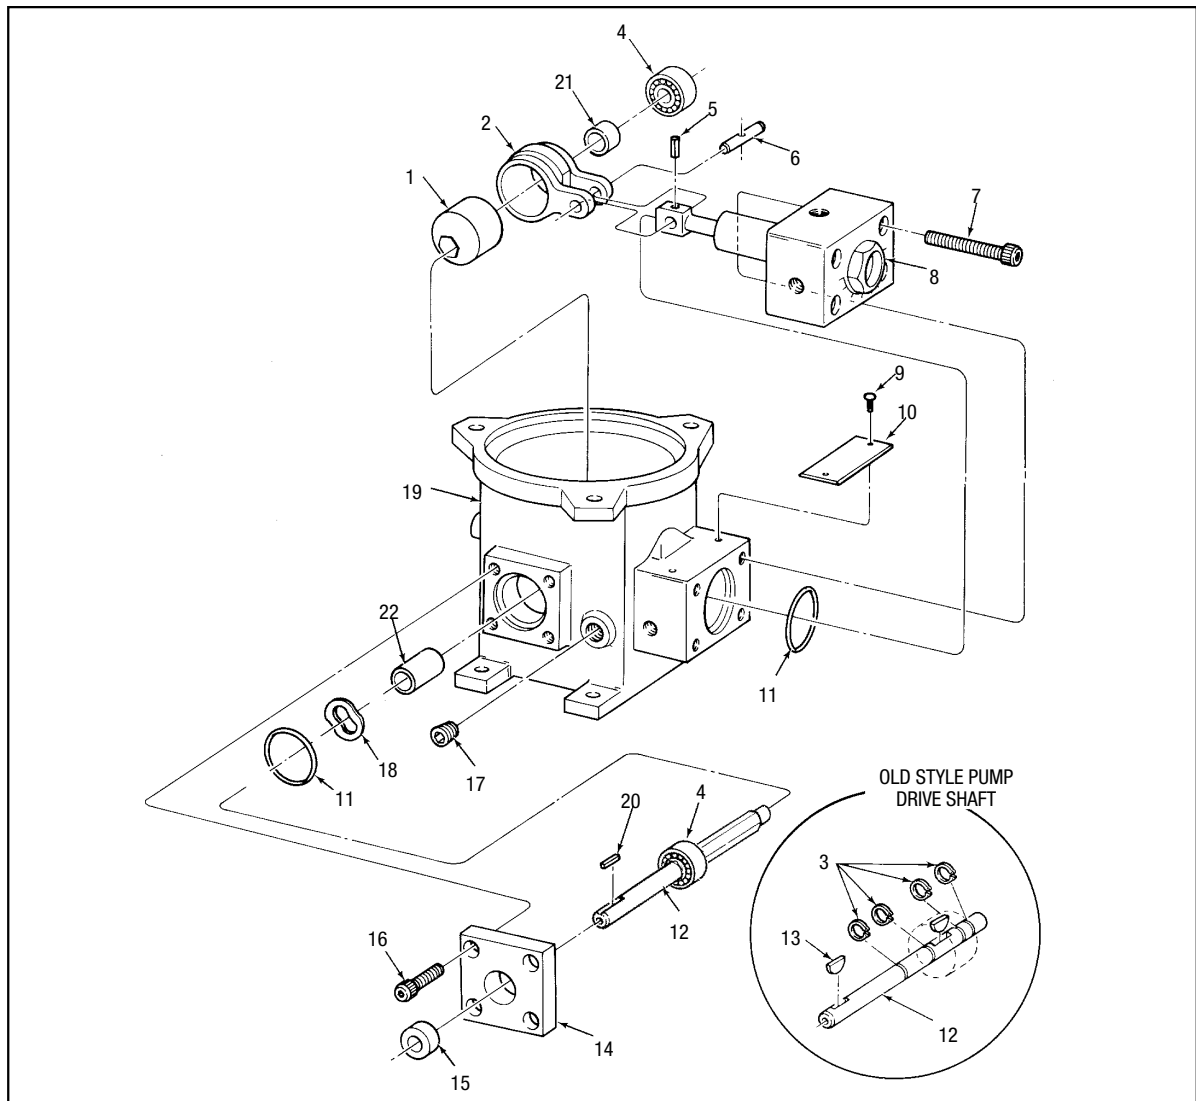
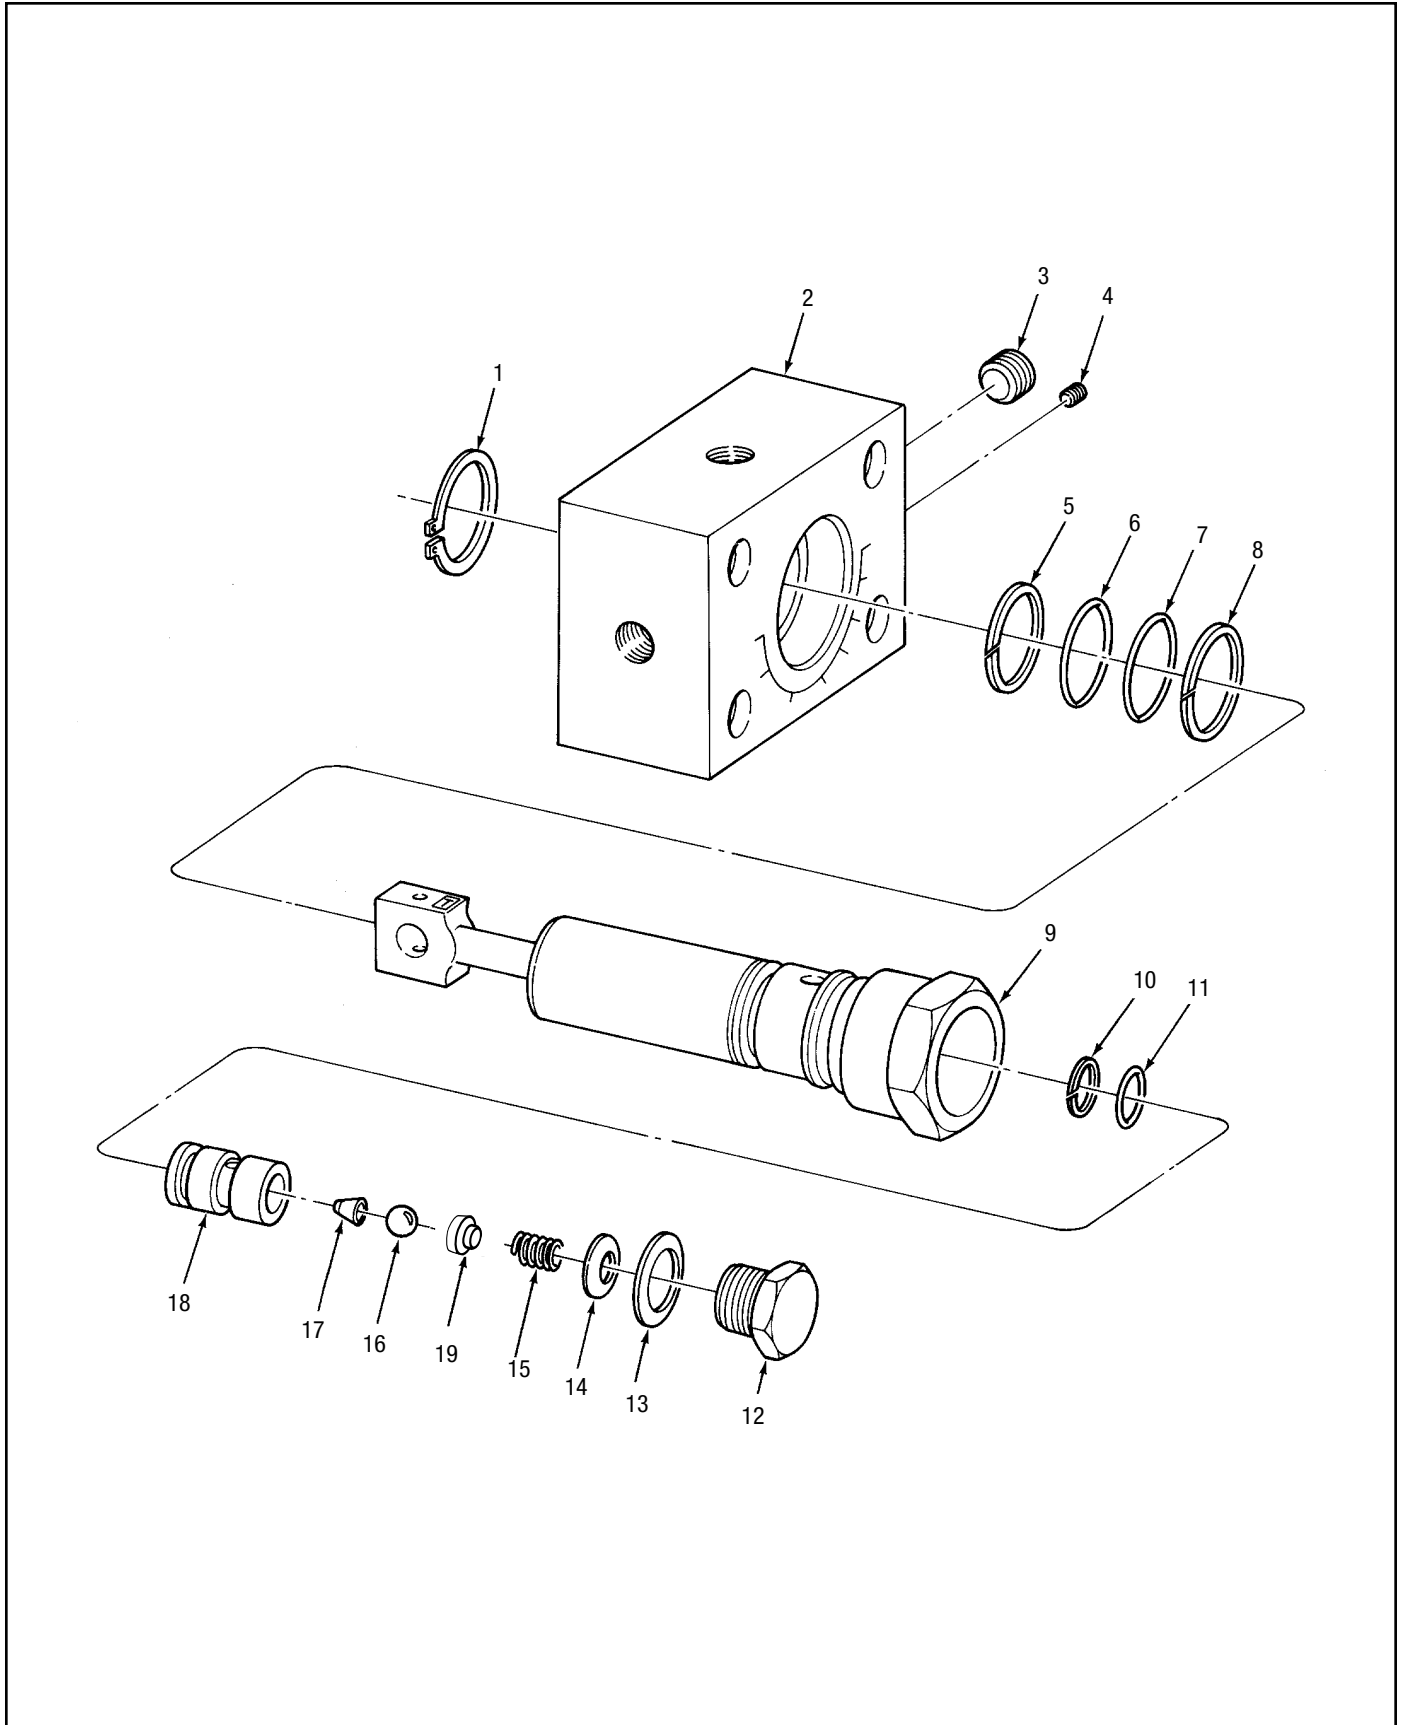

Figure 3-7. Pump Body Assembly - Exploded View
Figure 3-8. Output Manifold Block Assembly - Exploded View
- n. Install end plate (14) and secure with four screws (16). Tighten screws to a torque of 8 ft-lbs.
3.3.4 Output Manifold Repair Kit (Figure 3-7).
- c. Install an o-ring (11) on output manifold block assembly (8).
- d. Position output manifold block assembly (8) on pump body (19) and install manifold screws (7). Tighten screws to 8 ft-lbs.
- e. Engage the piston in the output manifold block assembly (8) with drive yoke (2) and install drive pin (6) and roll pin (5).
3.3.5 Pump Body Assembly Parts List. Table 3-3 identifies the parts indexed in Figure 3-7.
- a. Remove roll pin (5, Figure 3-7) and drive pin (6) from piston and sleeve assembly (9, Figure 3-8). Tap lightly to avoid possible damage to piston.
- b. Remove any gauges, plugs and fittings from the output manifold block assembly (8, Figure 3-7). Remove manifold screws (7) and manifold block assembly from pump body (19).
- l. Install end plug gasket (13, Figure 3-8) on enclosure plug (12) and thread plug into sleeve of piston and sleeve assembly (9). Tighten plug to 18 ft-lbs.
- m. Install o-rings (6 and 7) and backup rings (5 and 8) on piston and sleeve assembly (9) in the sequence shown in Figure 3-8. Lightly lubricate piston and install it in sleeve to form piston and sleeve assembly (9).
- n. Lubricate o-rings (6 and 7) and backup rings (5 and 8) on piston and sleeve assembly (9) and install assembly in output manifold block (2). Install retaining ring (1) on sleeve and pipe plug (3) in block.
- o. Remove outer drive key (20, Figure 3-7). On old-style pumps, remove outer Woodruff key (13).
- p. Remove end plate screws (16) and slide end plate (14) off drive shaft (12).
- q. Remove oil seal (15), wave washer (18), and ball bearing (4). Remove o-ring (11) from pump body (19). Use caution to avoid scratching mating surfaces.
- r. Remove drive shaft (12), drive yoke (2), eccentric (1), and ball bearing (4) from pump body (19).
- s. Clean pump body (19) and end plate (14) with a cloth and lightly oil piston in output manifold block assembly (8).
TABLE 3-3 PUMP BODY ASSEMBLY (FIGURE 3-7) PARTS LIST
TABLE 3-3 PUMP BODY ASSEMBLY (FIGURE 3-7) PARTS LIST CONTINUED
3.3.7 Output Manifold Block Assembly Parts List. Table 3-4 identifies the parts to be indexed in Figure 3-8.
- a. Locate the pump body (19, Figure 3-7) and assembled parts at the position from which it was removed and secure with attaching hardware. Make certain all fasteners are tightened to the proper torque.
- b. Install all guards and mechanical linkages or connections removed at the pump drive shaft (12).
- e. Make certain that pipe plug (17), removed to drain oil reservoirs, has been replaced. Perform the procedure outlined in Paragraph 3.3.2.
TABLE 3-4 OUTPUT MANIFOLD BLOCK ASSEMBLY (FIGURE 3-8)